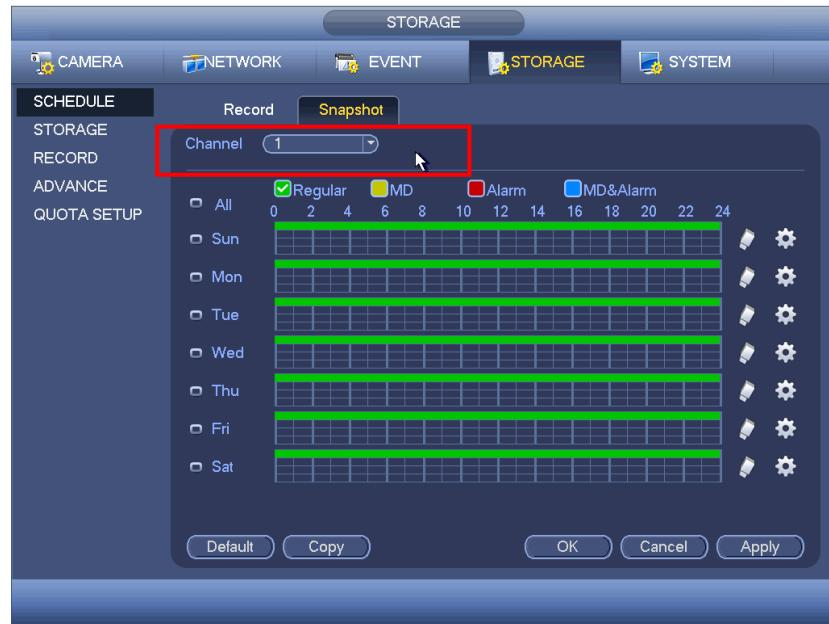

Figure 4-116
- In main menu, from Setting->Camera->Encode->Schedule interface, please enable snapshot function. See interface on the right of Figure 4-116.